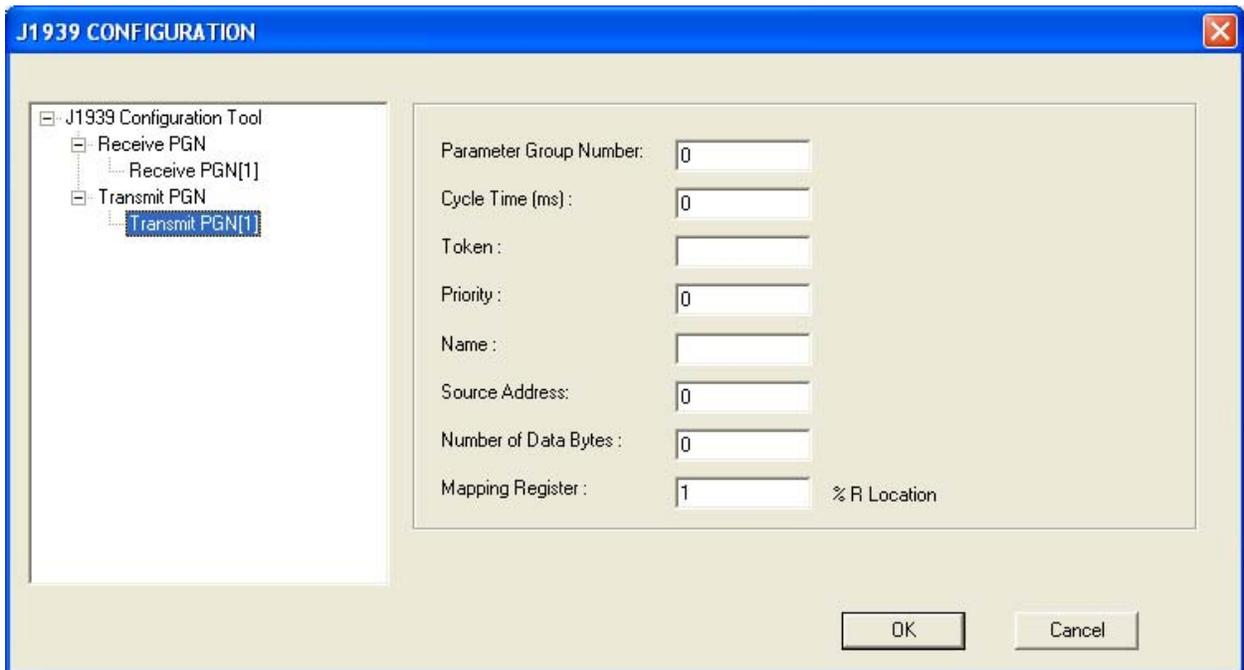

Figure 3.7 – Configuration of Transmit PGN
Select Transmit PGN (1) and configure the same. Refer Fig 3.7. For detailed description refer section 3.1